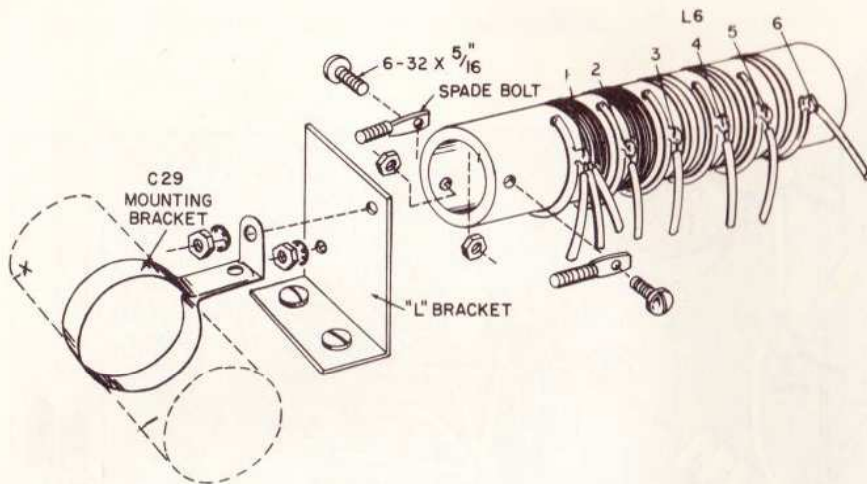

FIGURE 13
SEE FIGURE 13
- ☑ Fasten spade bolts to ceramic form of L6. See Figure 13. Note position of spade bolts. Use $6-32 \times \frac{5}{16}$ " screws and nuts. Insert screw through hole in spade bolts, then through hole in ceramic coil form.
- ☑ Mount L6 and C29 ($20\mu\text{f}$, 600V capacitor) on "L" bracket. See Figure 13. Note position of terminals on L6. They should point to rear of chassis. Insert spade bolts in holes in "L" bracket. Put lockwasher and nut on bolt nearer C16 and tighten nut securely. Note angle of clamp on C29. The red lead should point to C16. Put C29 bracket over other spade bolt. Use lockwasher and nut, and tighten.